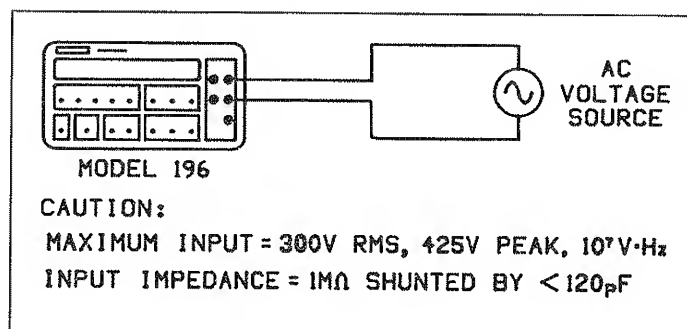

Figure 2-6. TRMS AC Voltage Measurement
4. Connect the signal to be measured to the selected input terminals as shown in Figure 2-6.